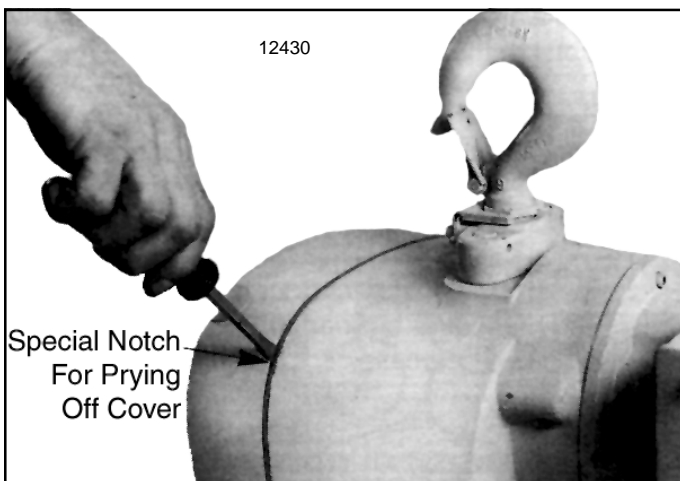
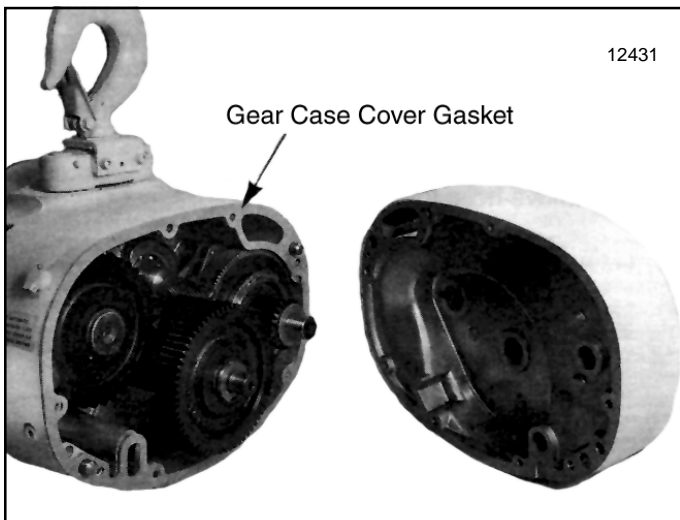

Figure 7-4. Prying Gearcase Cover From Hoist Frame
Figure 7-5. Gearcase Cover Removed From Hoist Frame
- (2) Remove eight hex socket head screws and lockwashers securing gearcase cover to hoist frame. Pry gearcase cover off hoist frame using screwdriver at special notches provided at opposite corners of cover (Figure 7-4). Gearcase cover can now be lifted from frame (Figure 7-5). Discard gearcase cover gasket.